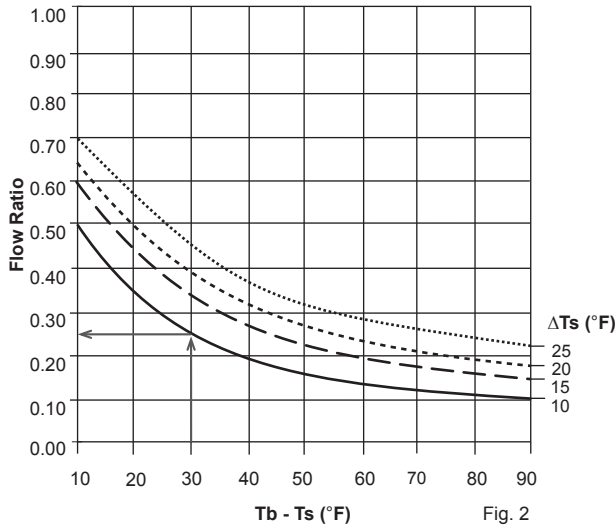

Fig. 2
- 3) Compute  $T_b - T_s$ . Look up the flow rates on figure 2.